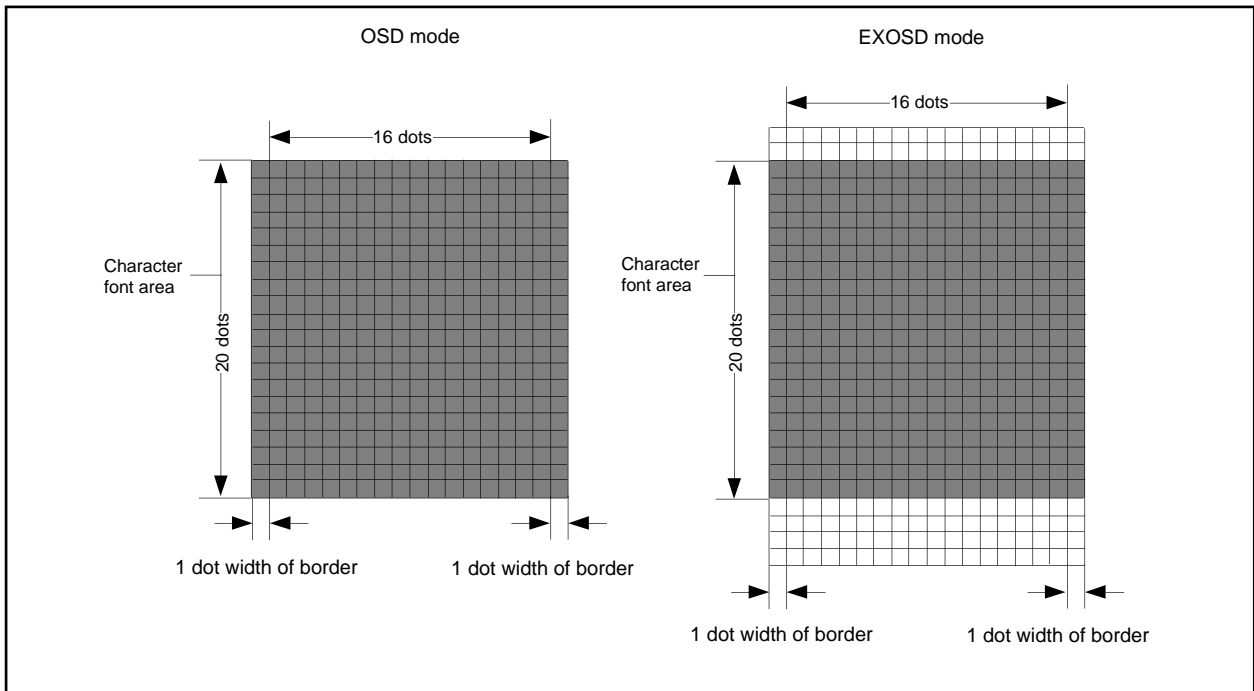

Fig. 80. Border Area
**3 :** When the border dot overlaps on the next character font, the character font has priority (refer to Figure 80 A). When the border dot overlaps on the next character background, the border has priority (refer to Figure 80 B).